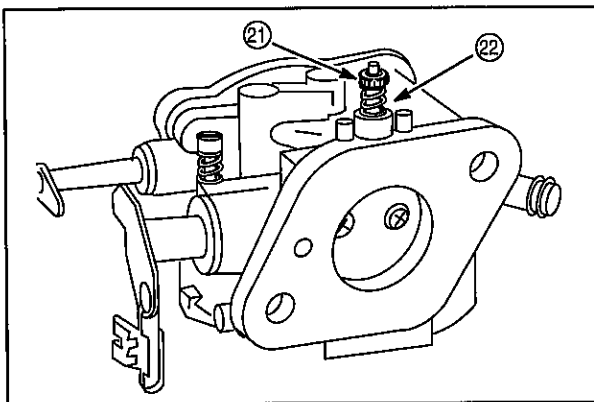

Fig. 39
19. Install idle mixture screw (21) and spring (22), Fig. 39.